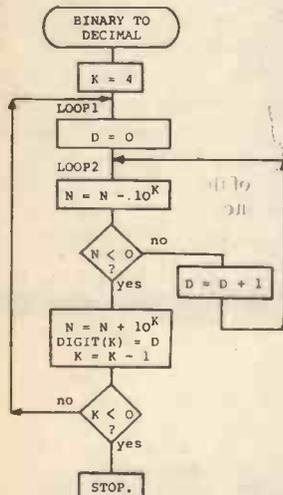

Fig. 1. Flowchart for a routine to convert a binary number N into decimal.
cessive locations, one decimal digit per location. The routine, as given in many programming handbooks, is represented by the flowchart in Fig. 1. The variable N is the original binary number, and the five digits of the result are DIGIT(4) to DIGIT(0); D is a temporary counter for the digits.
It is said that in most programs 90 per cent of the time is spent executing 10 per cent of the instructions, and the first step in optimising the speed of a program is to identify the time-consuming 10 per cent, which is normally the innermost loop of the program. The next step is to make this section of the program execute as fast as possible. The innermost loop in the flowchart of Fig. 1 begins at LOOP 2, and consists of a double-byte subtraction, a test, and an increment. This loop is executed once for each power of ten subtracted; in other words, the number of iterations is the sum of the decimal digits of the number being converted. The slowest number will be 59.999, needing 5+9+9+9+9 or 41 iterations.
An immediate improvement can be made by realising that the last digit is just the remainder after calculating the first four digits, so there is no need to repeatedly subtract 1 from it. This futile calculation can be removed from the program, reducing the number of iterations to 32. A second, less obvious, saving is gained by noticing that to implement the inner loop of Fig. 1, two branch (or jump)